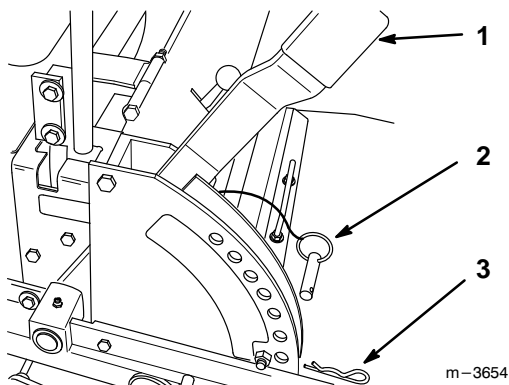

Figure 4
1. Raise the height-of-cut lever to the transport position (also the 5" (127 mm) cutting height position) (Fig. 4).
2. To adjust, remove hairpin cotter and clevis pin from height-of-cut bracket (Fig. 4).
3. Select hole in height-of-cut bracket corresponding to the height-of-cut desired. Lift handle to transport position, insert clevis pin (Fig. 4).
4. Secure clevis pin with hairpin cotter (Fig. 4).